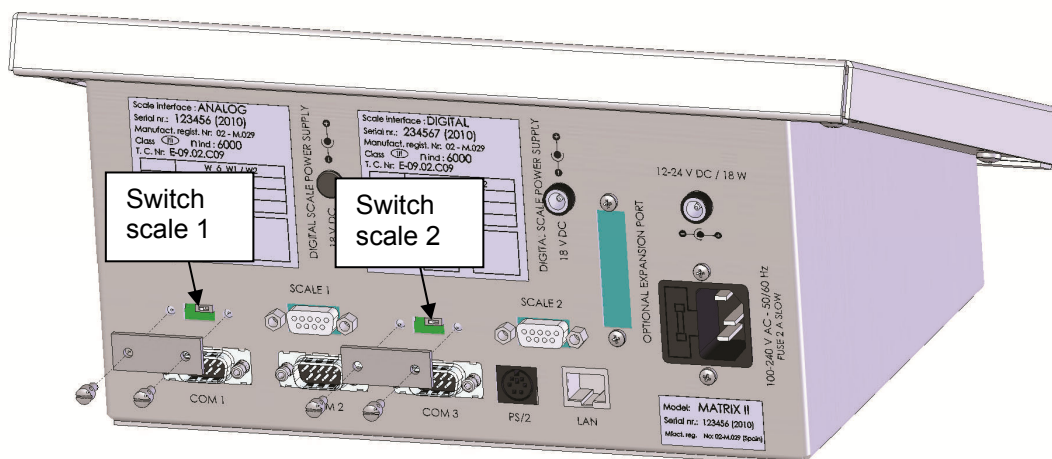

Figure 5.1.4 Mechanical Security seal
- Configuration and calibration of the scale(s): besides being in UNPROTECTED mode, there is a switch on the back of the indicator (see figure 5.1.4) for each one of the two scales (a second scale is optional). This is a selector that can be mechanically sealed off and in the LOCK position, prevents any modification of the protected parameters even in UNPROTECTED mode.